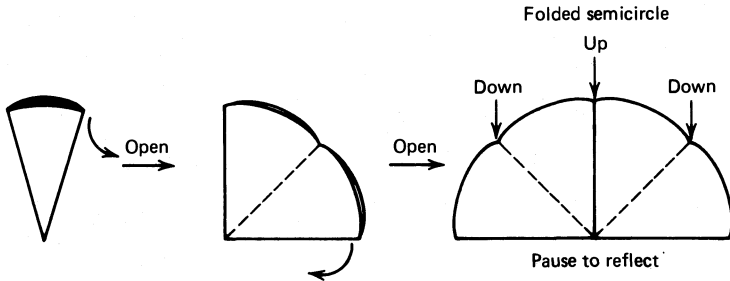

Fig. 50 Unfolding to a sort of bent semicircle.
2. Unfold this cone *twice* so it looks like a semicircle (Fig. 50), and put it down on a flat surface. Look at it and think for not less than two full minutes the first time you do this.